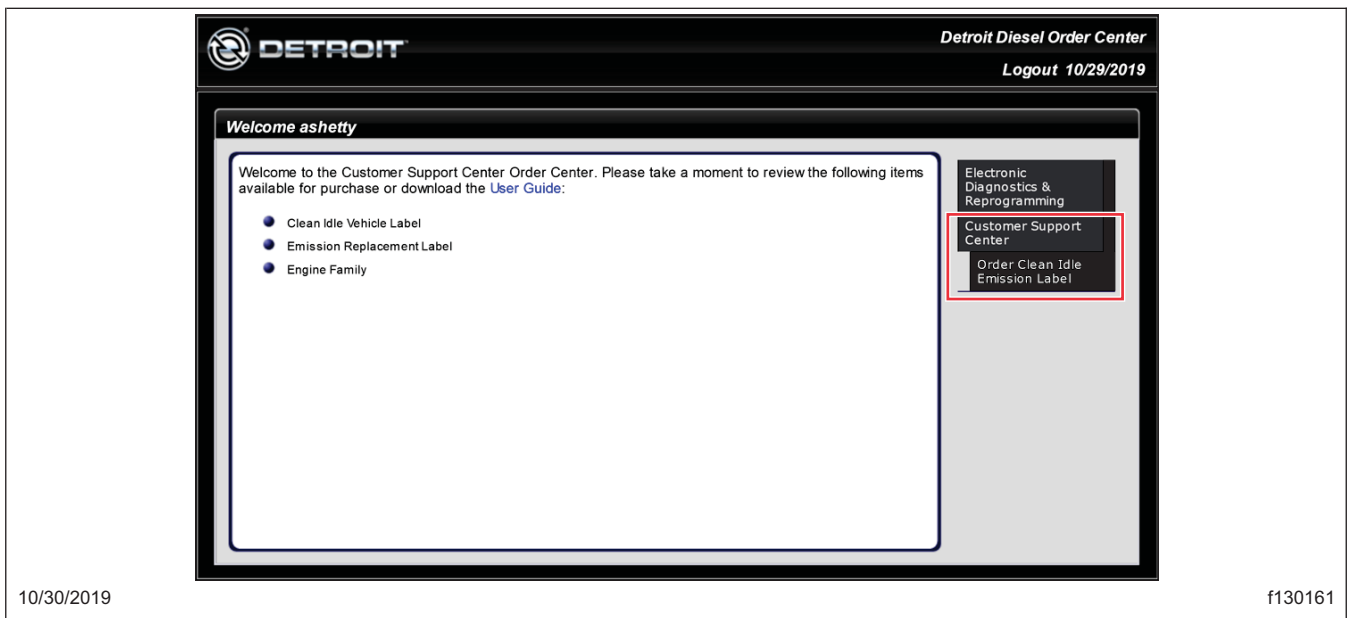

Fig. 9, Ordering Campaign Label
2.5 Go to "Customer Support." See **Fig. 9**.